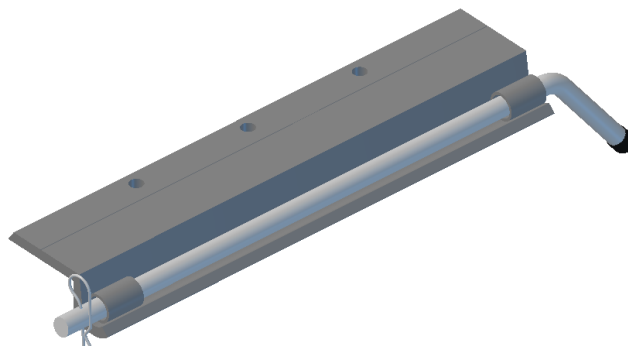

Figure 6 – Illustrated view of 36"-long Trailer Receiver with installed 7/8"-dia. aluminum Retaining Rod
- (Qty: 2) 36"-long Trailer Receivers w/ 7/8"-dia. aluminum Retaining Rods for mounting over rear rub rail, depicted in Fig. 6: